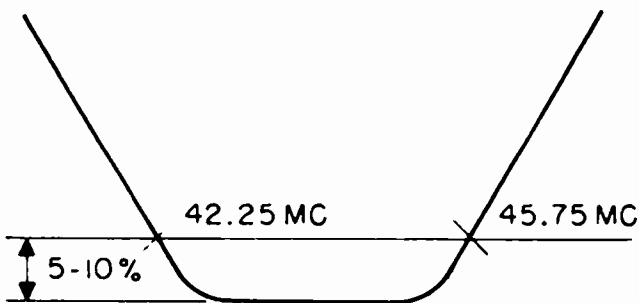

FIGURE 8. 3RD IF RESPONSE CURVE
8. Tune the primary and secondary of the 3rd IF transformer (T-7) to place a 45.75 mc marker on the high side of the response curve approximately 5 to 10% down from maximum response and a 42.25 mc marker on the low side of the response curve approximately 5 to 10% down from maximum response. See Figure 8.